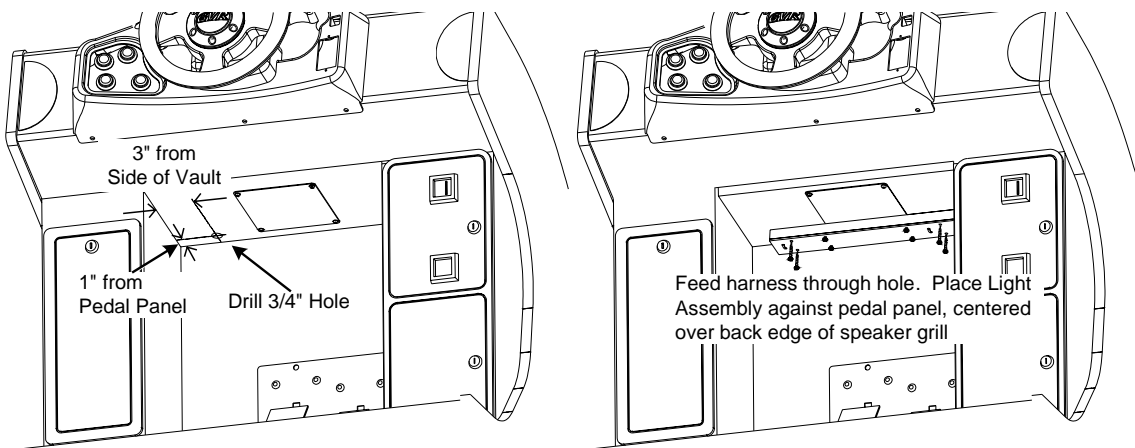

Figure 2. Light Placement on Deluxe (39" Monitor) Cabinets
- Deluxe Cabinets (39" Monitor): 1" from the pedal panel, and 3" from the left-side vault (see Figure 2).
- Deluxe Cabinets (39" Monitor): Against the pedal panel, centered between the two vaults, with the harness running through the hole that you drilled (see Figure 2).
- Tighten the four (4) screws that are partially installed in the light assembly to secure it to the cabinet.